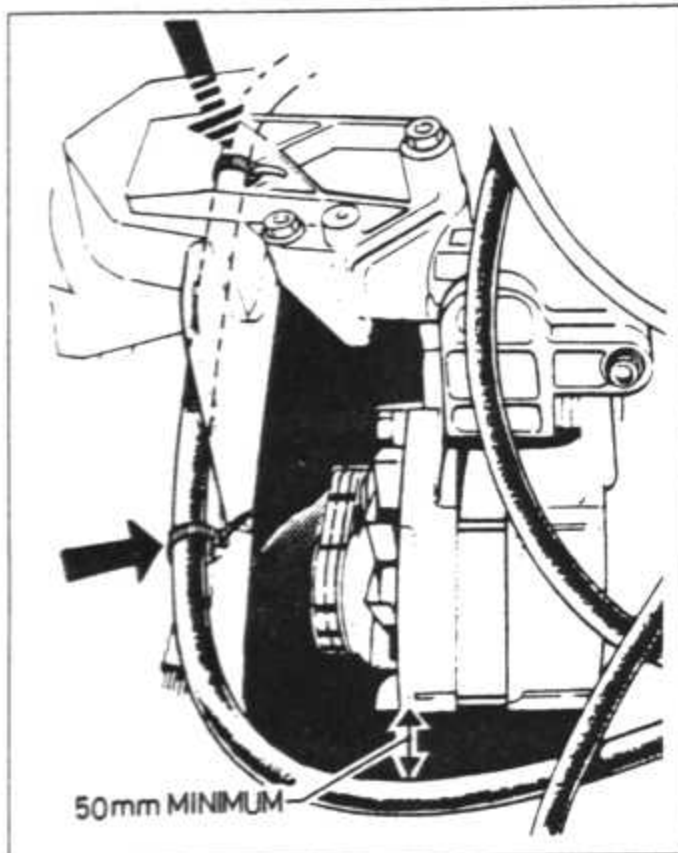

Fig. 1.35 Heater hose routing showing securing clip locations (arrowed) and clearance requirement from alternator (Sec 93)
- When refitting the heater hose, arrange it as shown in Fig. 1.35 and secure it with the retaining straps. When located the hose must be 50 mm clear of the alternator (at the front).